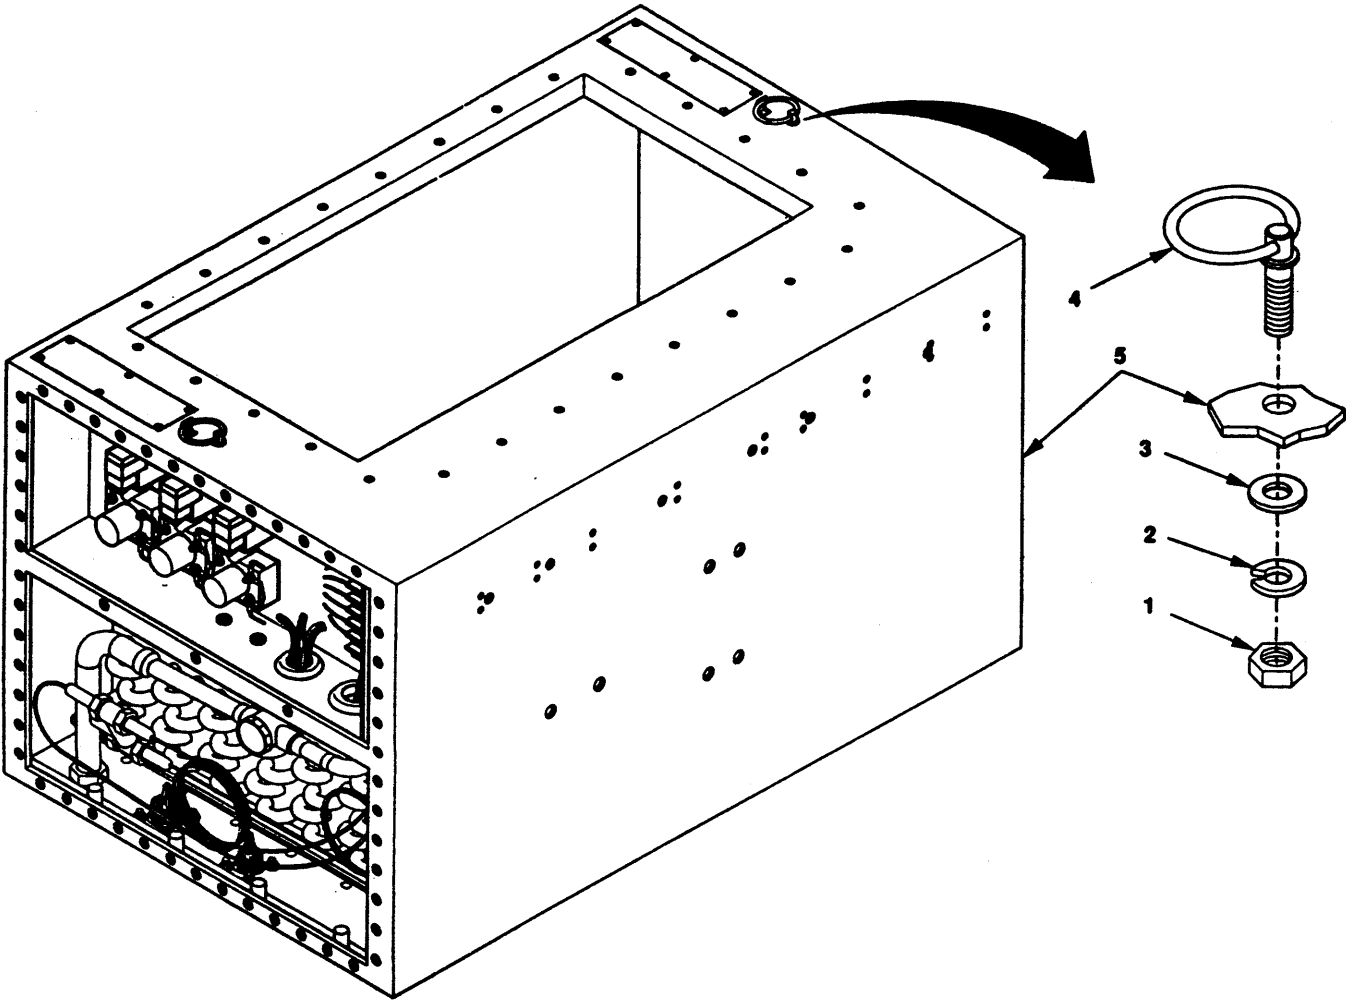

Figure 5-3. Curbside Lifting Ring Replacement
- a. **Remove.** Remove nut (Figure 5-3, 1), lock washer (2), flat washer (3), and lifting ring (4). Discard lock washer (2).
- (1) Install lifting ring (4) in condenser assembly (5) and secure with flat washer (3), new lock washer (2), and nut (1).
- (2) Follow on maintenance: